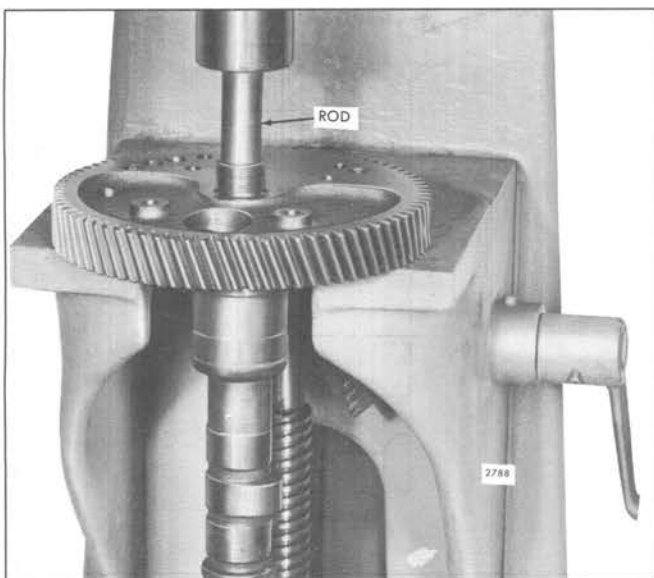

Fig. 4 – Removing Camshaft Gear
2. Place one of the camshaft and gear assemblies in an arbor press as shown in Fig. 4.